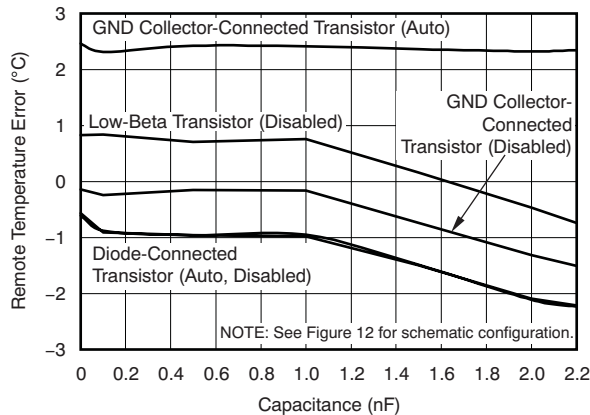

Figure 9.
The TMP435 can tolerate differential input capacitance of up to  $2200\text{pF}$  with minimal change in temperature error. The effect of capacitance on sensed remote temperature error is illustrated in Figure 9 and Figure 10, *Remote Temperature Error vs Differential Capacitance*. See the Filtering section for suggested component values where filtering unwanted coupled signals is needed.
- (1) Diode-connected configuration provides better settling time. Transistor-connected configuration provides better series resistance cancellation.
- (2)  $R_S$  (optional) should be  $< 1\text{k}\Omega$  in most applications. Selection of  $R_S$  depends on specific application; see Filtering section.
- (3)  $C_{\text{DIFF}}$  (optional) should be  $< 2200\text{pF}$  in most applications. Selection of  $C_{\text{DIFF}}$  depends on specific application; see Filtering section and Figure 9, Remote Temperature Error vs Differential Capacitance.